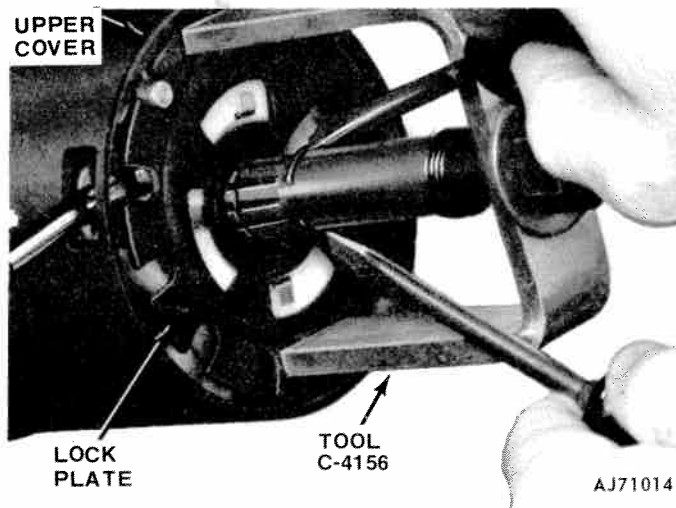

Fig. 11-32 Lock Plate Snap Ring Installation
(35) Place steering shaft snap ring onto Lock Plate Compressor Tool J-23653. Install tool onto steering shaft. Compress lock plate and push snap ring into place (Fig. 11-32).
(36) Install anti-theft cover.
(37) Carefully guide gear shift lever over tension spring and into shift bowl, aligning pivot pin holes with a suitable size punch. Drive pivot pin through lever with a fiber mallet or brass drift.
(38) Install key lock cylinder.